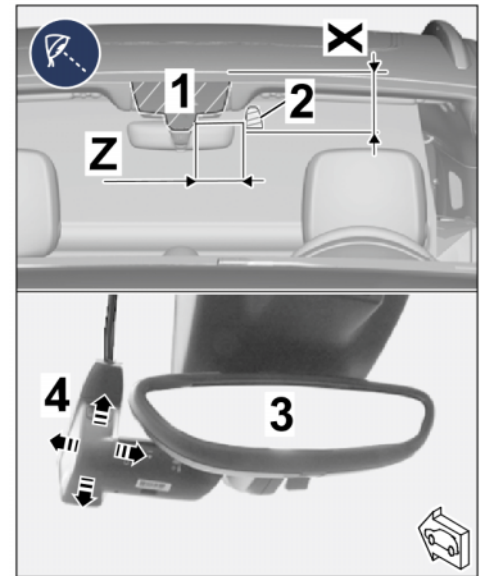

Figure 8
2.1.3 Copy dimensions X and Z on the windscreen (⇒ *Figure 8-top-*).
2.1.4 Position front camera with retainer plate in the vehicle at the marking on the windscreen (⇒ *Figure 8-Arrows-*).